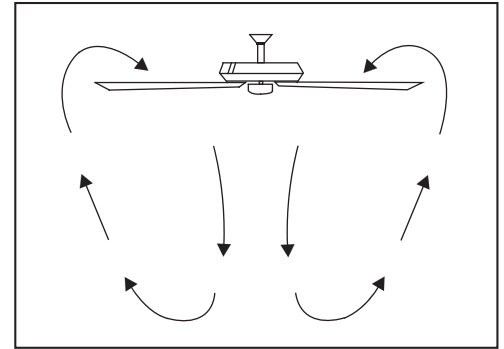

Figure 22
**Warm weather** - (Counter Clockwise Direction) A downward air flow creates a cooling effect as shown in Figure 22. This allows you to set your air conditioner on a higher setting without affecting your comfort.